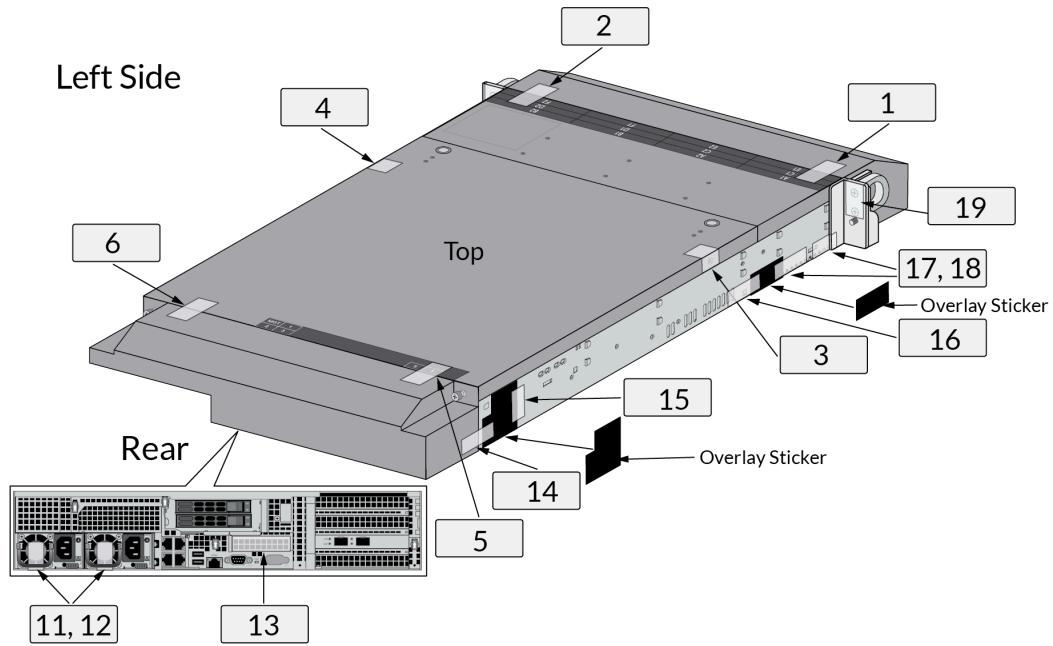

Figure 29 – M-600: Tamper Seal Locations (Top and Rear)
4. Install a tamper-evident seal on the back of the appliance. This is seal #13 in the M-600 Figure 29. You need to install this seal before you install the M-600 physical kit back cover.
- a. Slide the back cover onto the back of the appliance and turn the two (2) thumb screws clockwise until tight (one (1) screw on each side) to secure the cover.
6. Apply a tamper-evident seal to each location shown in the following M-600 illustrations below. Also install the overlay stickers to cover vent openings (two (2) stickers on each side). You then install tamper-evident seals over the overlay stickers. Apply two (2) tamper-evident seals on the back side of the right rack handle (see seals #18 and #19 on the left side in Figure 29). Apply two (2) tamper-evident seals on the power supplies (see seals #11 and #12 with rear inset of Figure 29).